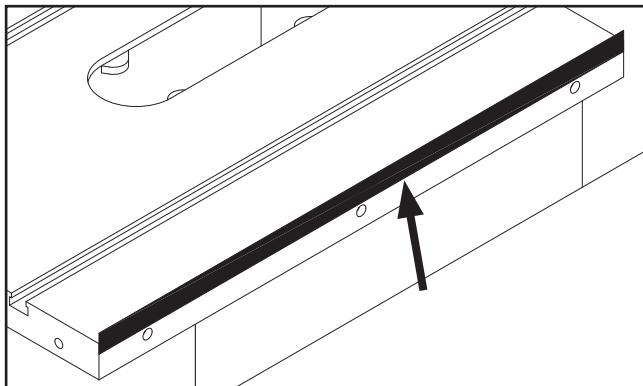

Figure 15. Masking tape location for adjusting the extension wing down.
- If the outside end of the extension wing tilts up, use a strip of masking tape along the top edge of the main table to shim the extension wing down (see **Figure 15**).